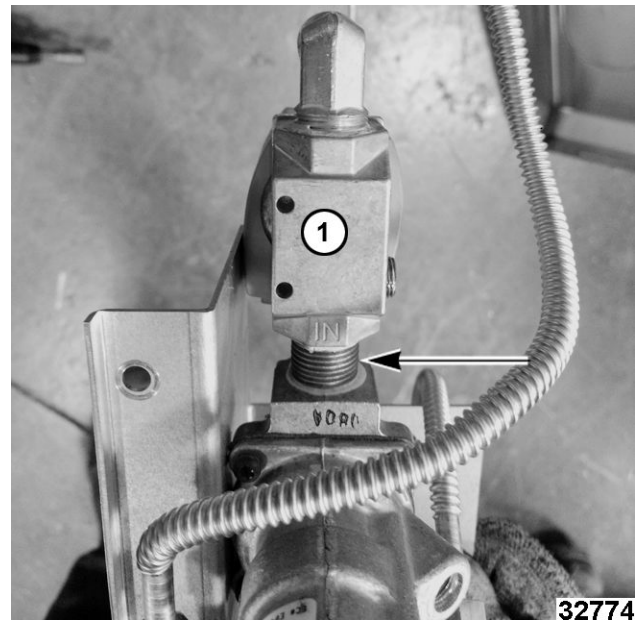

Fig. 40
3. Remove solenoid (1, Fig. 40) from pipe nipple.